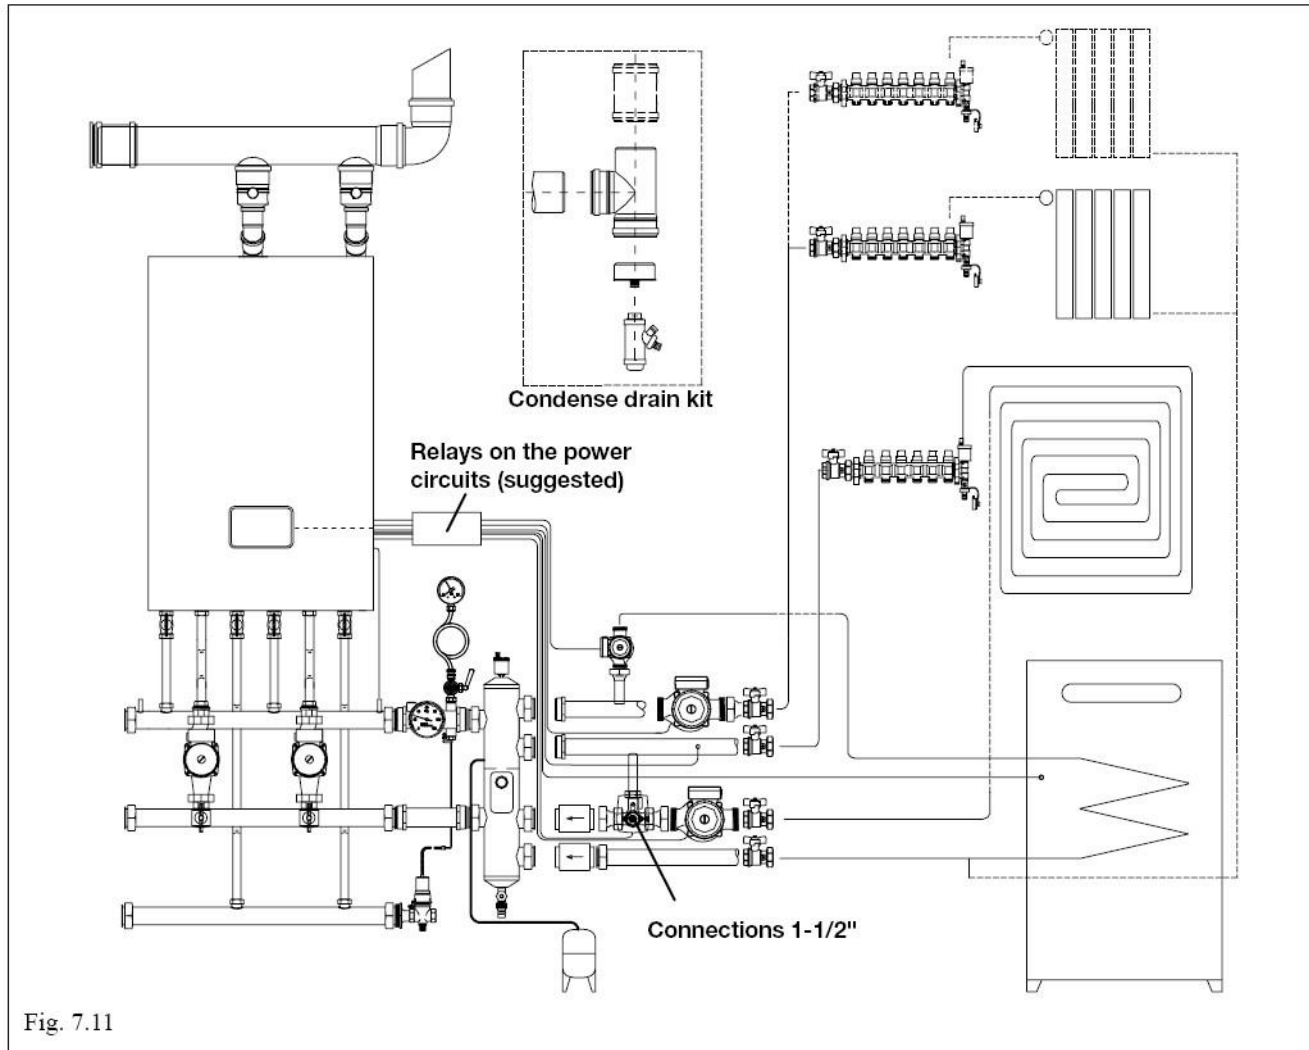

Fig. 7.11
**Installation of the low temperature circuit (figure 7.11)**